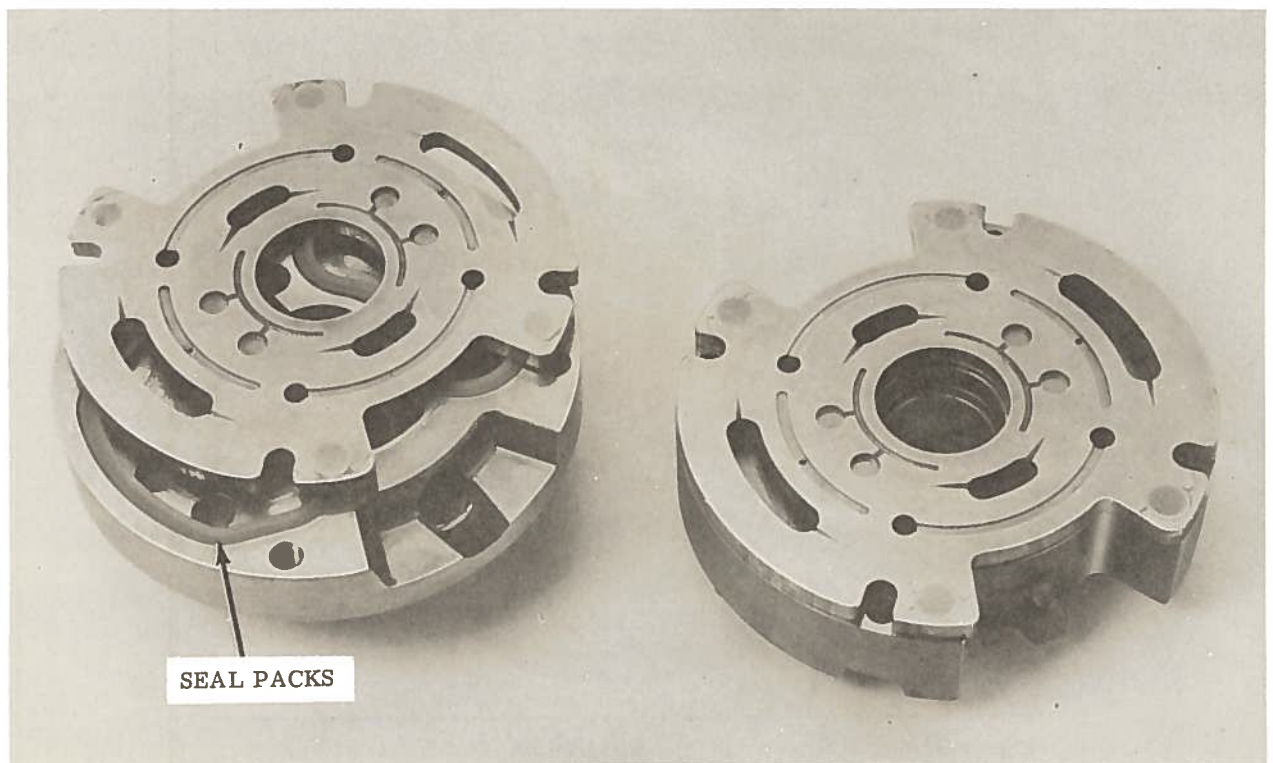

Figure 19 - Assembly of flex side plates over seal packs
a. Place the inlet and outlet support plates on a flat surface as shown in figure 19. Install seal packs into cavities with seal retainer surface up. ("O"rings facing downward into the cavities.)